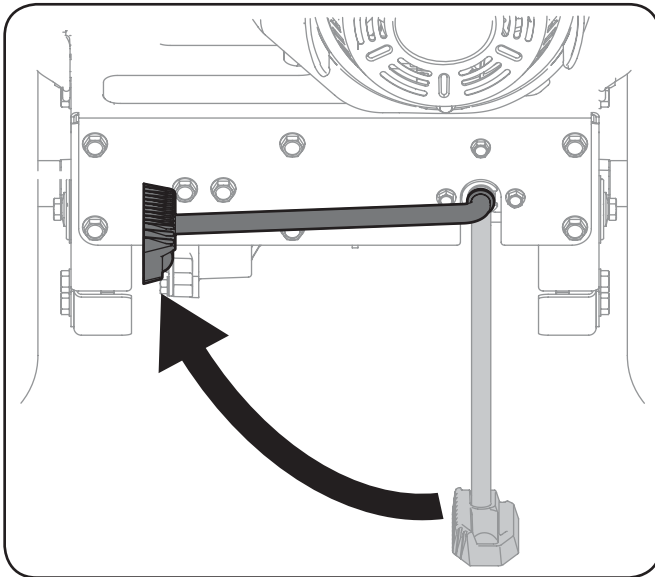

Figure 5-1
1. With the kickstand UP on the FLEX™ Power Base, as shown in Figure 5-1, roll it over to the snow thrower attachment.